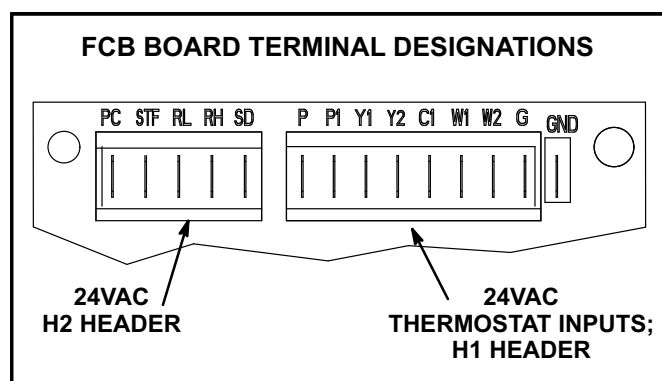

FIGURE 24
- 3- Check for 24VAC signal at the thermostat blower input (G to GND terminal). See figure 24.